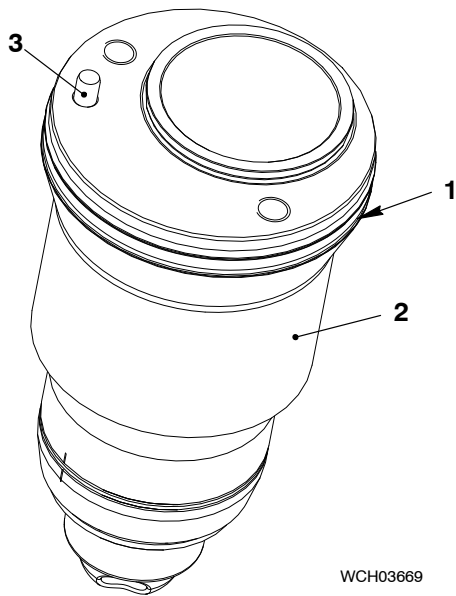

Fig. 8
- 1) Make sure that the pre-chamber (2, Fig. 8) is internally and externally clean.
- 2) Install the 8x20 dowel pin (3).
- 3) Attach a new O-ring (1) to the pre-chamber (2).